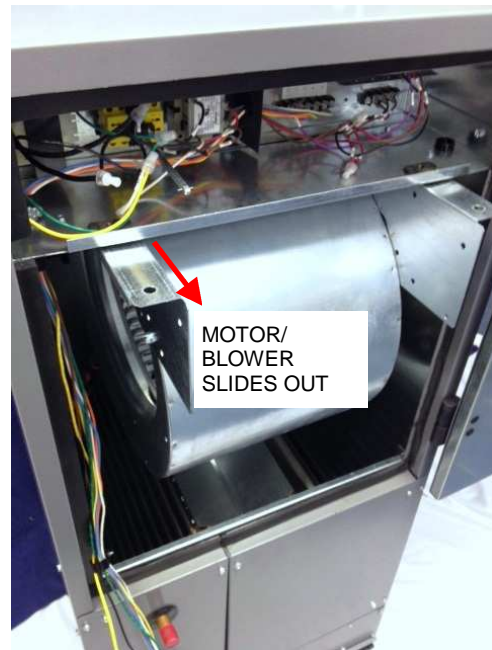

Figure 18
3. Remove motor/wheel assembly from the AHU by sliding out (Figure 18).